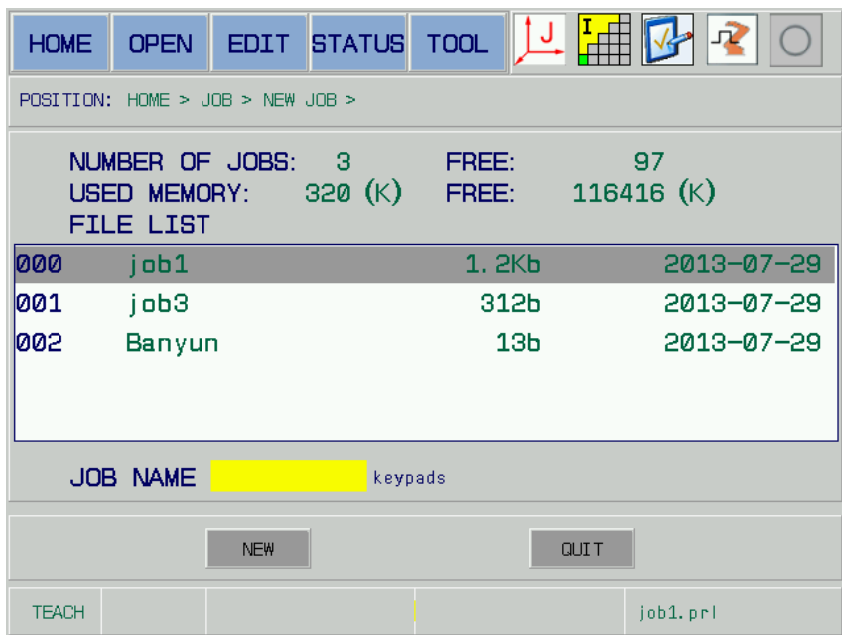

Fig. 5-2
2. Select the {New job} by the up/down direction button, and then enter the new program interface by [SELECT]; refer to the Fig. 5-2.